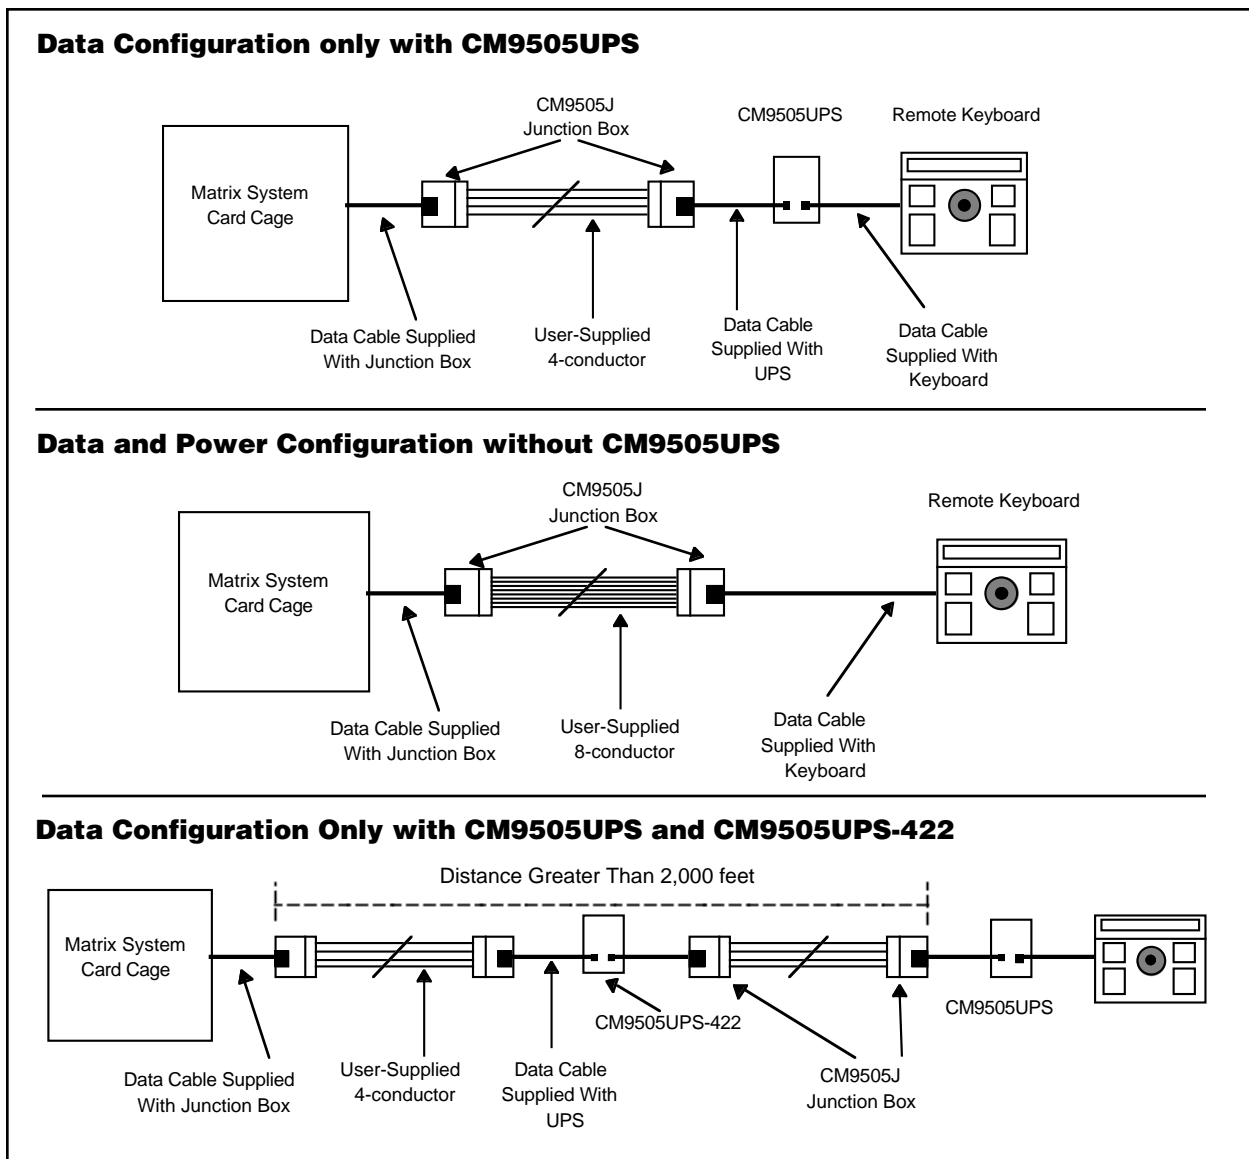

Figure 5. CM9505UPS/CM9505J Configuration
The CM8502A-1 and CM8503A-1 Card Cages each offer a total of eight (8) individual keyboard communications ports. Normally one keyboard utilizes one communications port. Communications between each keyboard and the CPU consists of two (2) balanced differential data pairs and ± 12 VDC supply voltages together utilizing seven conductors. The keyboards are supplied with 25-foot (63.5 cm) pretested interconnect cables with pre-assembled RJ-45 modular 8-pin male connectors. Within many installations, it is necessary to install system keyboards at remote sites. The CM9505J Junction Box allows you to convert the keyboard data cable into a set of cabling that can be run through conduit (if necessary) for significantly greater distances by eliminating the keyboard power connections and only running the data. The CM9505UPS reintroduces keyboard power at the keyboard end of the cabling. See Figure 5. For distances of over 2,000 feet (609.6 m), Pelco recommends using the CM9505UPS-422 power supply/data repeater at the middle of the run of wire in addition to the CM9505UPS.